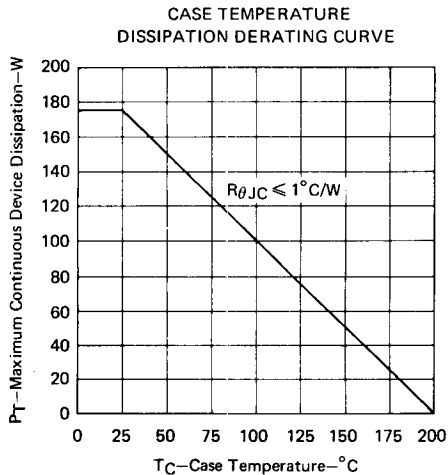

FIGURE 9
3. Derate linearly to 200°C case temperature at the rate of 1 W/°C or refer to Dissipation Derating Curve, Figure 9.